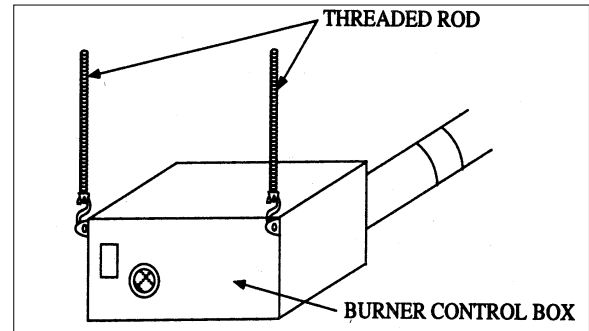

Figure 1-7
**NOTE:** If windy conditions exist in the space around the heater, it may be necessary to rigidly mount the heater to prevent swaying. It is recommended that threaded rod be used for the two hanging points at the burner control box (see Figure 1-7). The remaining hanging points should use chains to allow for heater expansion.